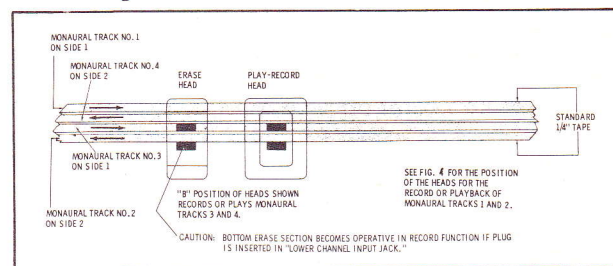

Fig. 5. "B" Position of Heads Shown
6. At the end of the reel, turn the Function knob to the Stop position. Turn the head track selector knob to the "B" position. This action moves the heads in a position with respect to the tape as shown in Fig. 5.